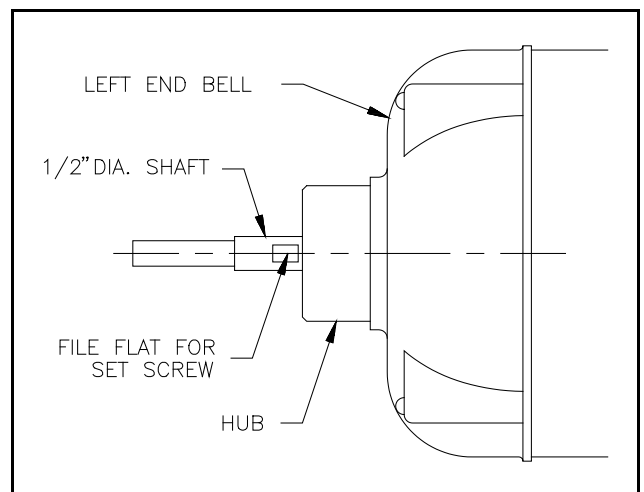

Figure 6. Hub and shaft
- 6.4 File a flat on the shaft where the clutch set screw contacts the shaft. See Figure 6.